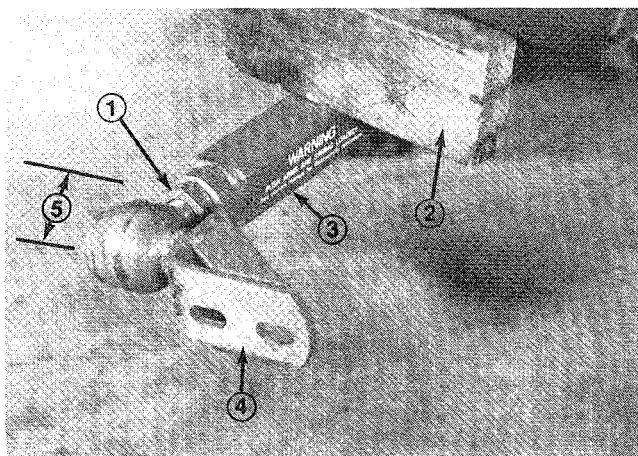

Figure 14
until center of ball joint is 2-3/8 inches (60 mm) away from front of push arm (Fig. 14). Do not tighten jam nut.
4. Have a helper push down on the left push arm; then insert a 2 x 4 in. (51 x 102 mm) block of wood between the frame and top of the push arm (Fig. 14). Screw ball joint into left hand push arm